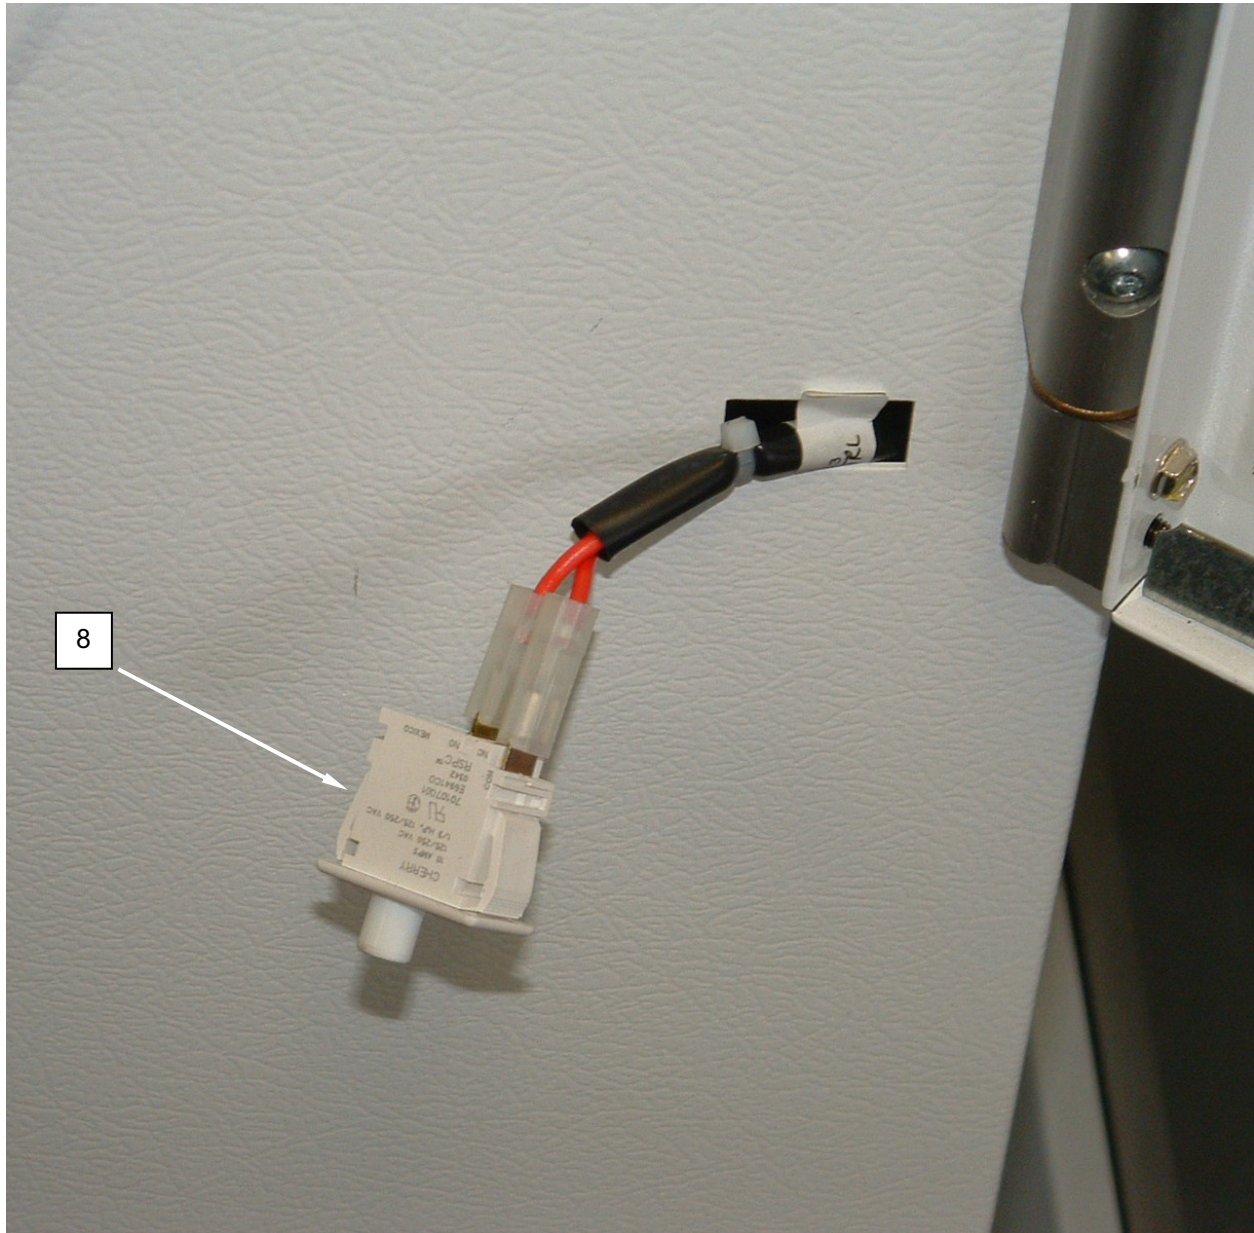

Figure 5. Test the Dryer Door Switch.
3. Remove switch (**Figure 5, Item 8**) by prying it gently with a small screwdriver.
4. Tag and disconnect wiring from switch (**Figure 5, Item 8**).
7. Replace a switch (**Figure 5, Item 8**) that fails either test.
8. Connect wiring to switch (**Figure 5, Item 8**) as tagged.
9. Install switch (**Figure 5, Item 8**).